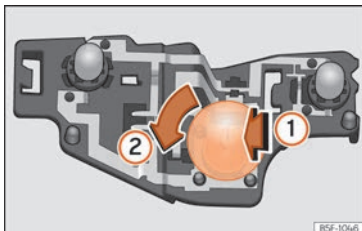

Fig. 66 Position of the bulbs in the bulb holder
- Lightly press the defective bulb into the bulb holder ①, then turn it to the left ② and remove it »» Fig. 66.